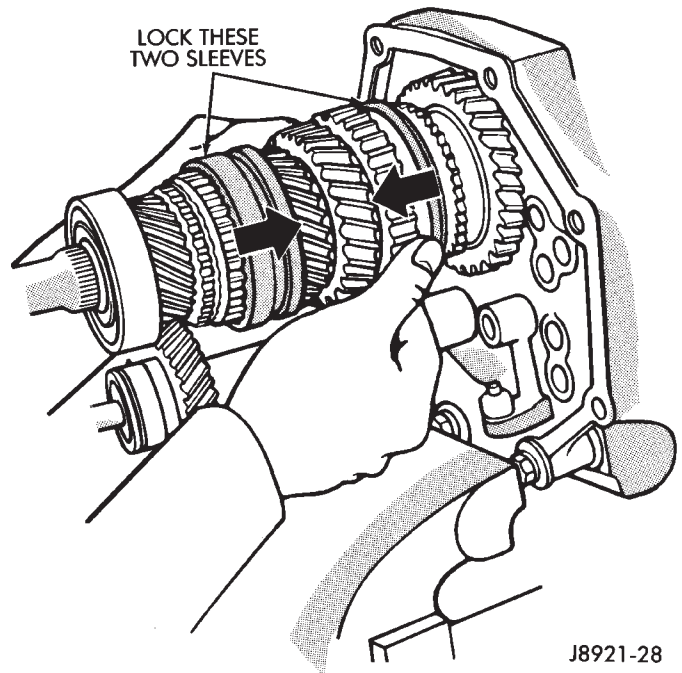

Fig. 28 Locking Mainshaft Gears
(2) Engage two synchro sleeves to lock mainshaft gears (Fig. 28).